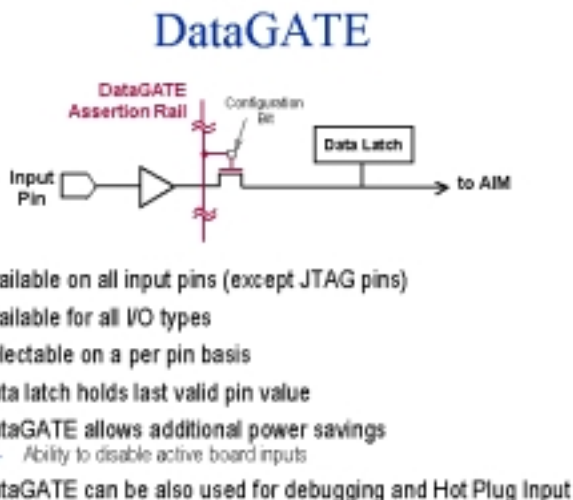

FIGURE 2-32: DATAGATE FUNCTION IN COOLRUNNER-II CPLDS
**Figure 2-32** shows how DataGATE function works. One I/O pin drives the DataGATE assertion rail. It can have any desired logic function on it – something as simple as mapping an input pin to the DataGATE function or as complex as a counter or state machine output driving the DataGATE I/O pin through a macrocell.